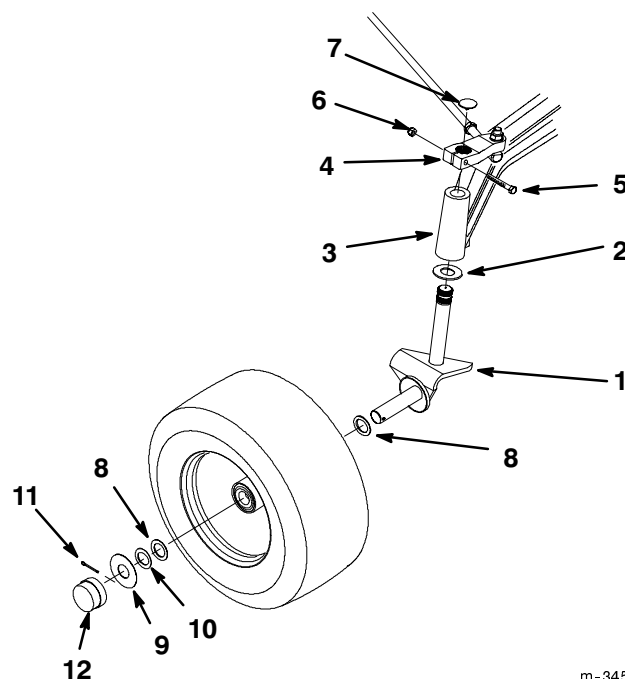

**Figure 3**
**Note:** The L.H. and R.H. spindles are different. Assemble the spindles as shown in figure 3.
**Note:** The outside edge of the spindle must be parallel to the end of the steering arm (Fig. 3).